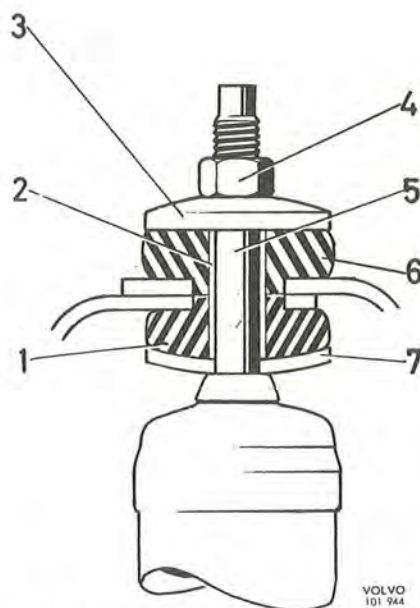

Fig. 7-7. Upper attachment, front shock absorber
3. Check the lower washer of the upper shock absorber attachment and rubber bush (1, and 7, Fig. 7-7). Place the shock absorber in position and tighten its attachment.
The front shock absorber upper attachment (Fig. 7-7) consists of a spindle (5), which with upper bushes (1 and 6), washers (3 and 7) and a spacing sleeve are fixed into a housing in the front axle member.
1. Remove the upper nut (4, Fig. 7-7), the washer (3) and the rubber bush (6).